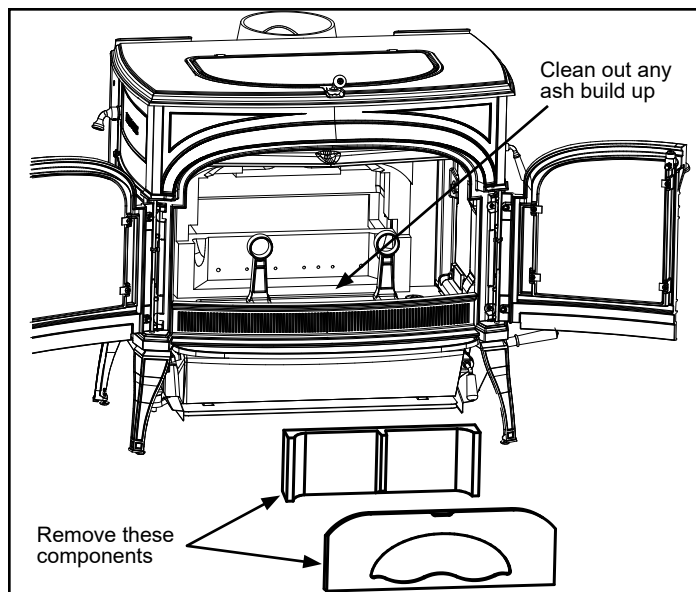

Figure 48 - Inspect and clean out ash accumulation behind the combustion system.
- Inspect for and remove ash build-up behind the combustion package. This should be done in conjunction with annual cleaning of the chimney connector. Inspect the passage behind the combustion package (a mirror will be helpful) and vacuum away ash using a flexible vacuum hose inserted in the passage. (Figure 48)